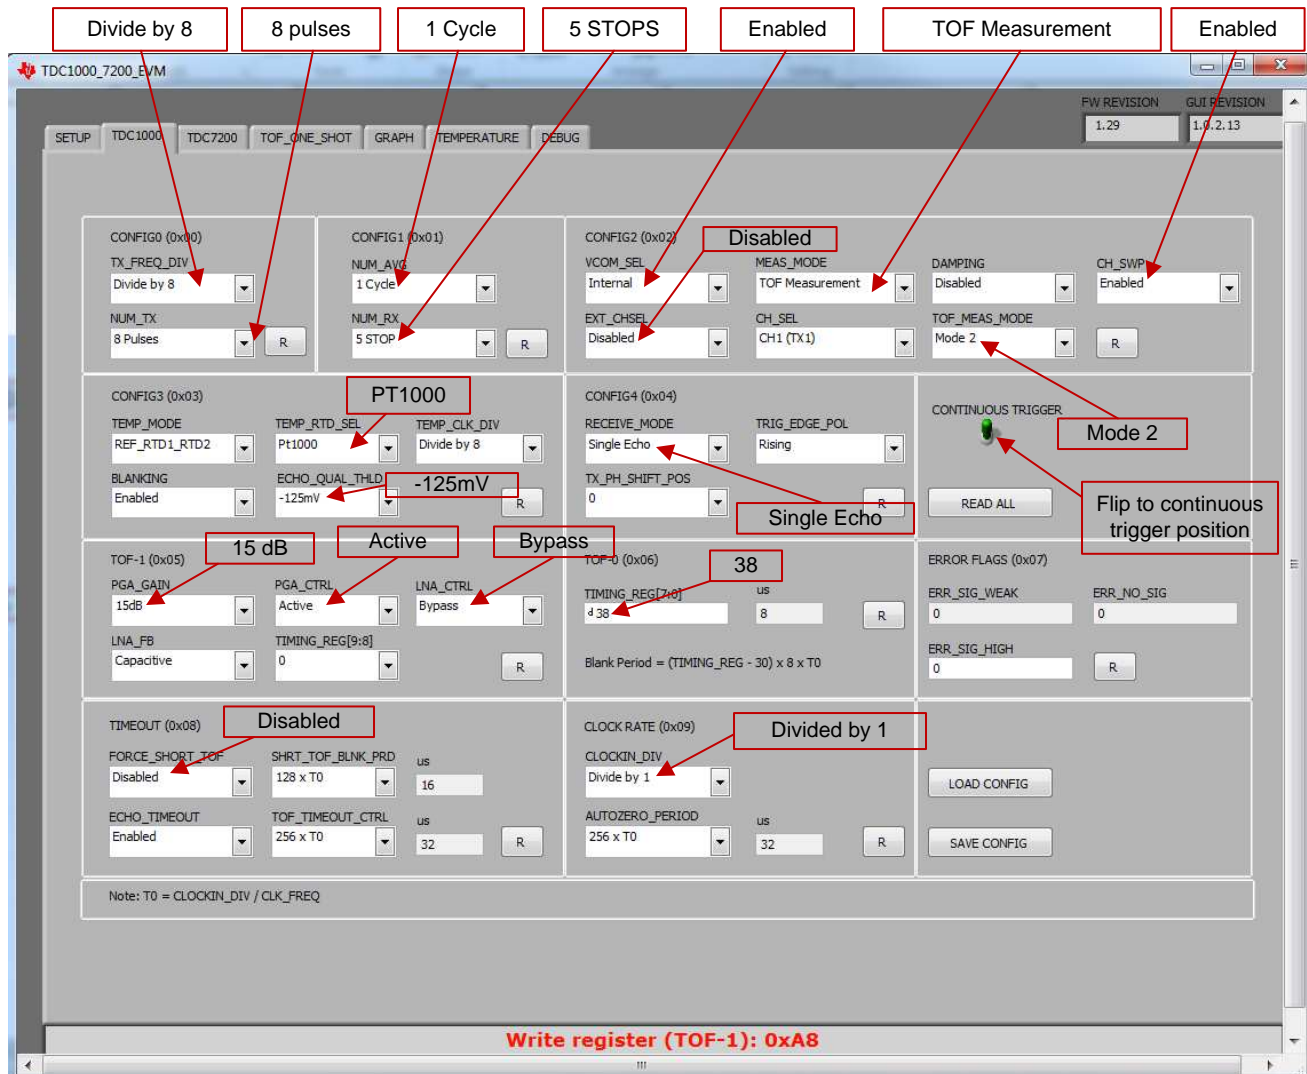
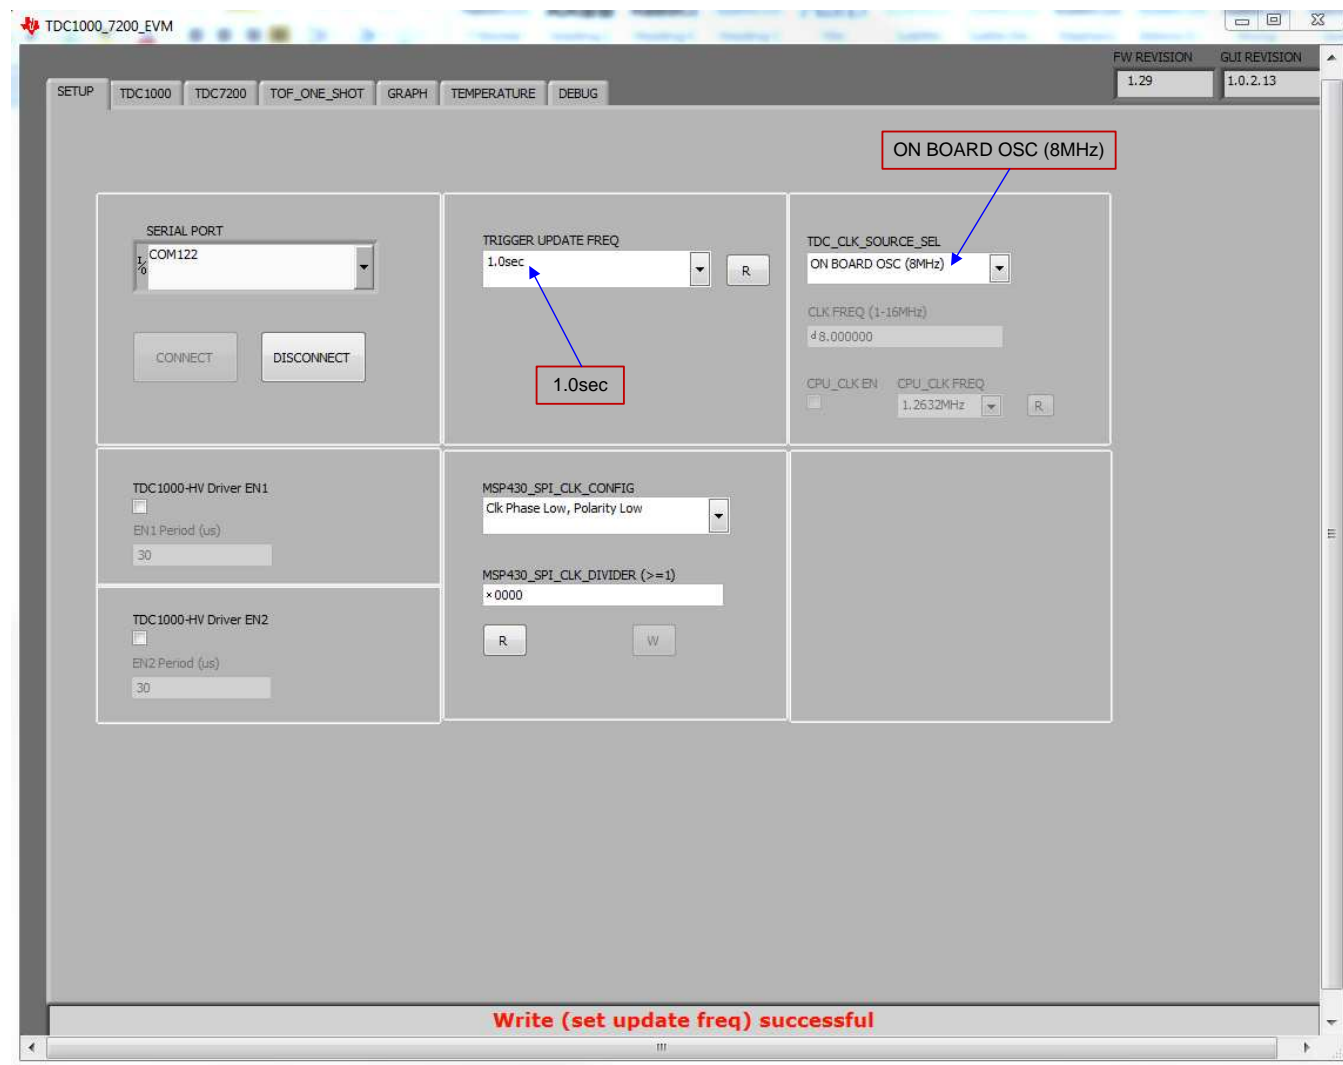

Figure 7. TDC1000 Setup Menu in the GUI
Figure 8. Sampling Interval Setup
2. Set the registers in the TDC1000 menu to the values shown in Figure 7, Figure 8, and Figure 9. Flip the "CONTINUOUS TRIGGER" switch to the top position (switch will turn to green from red indicating that the system is running).